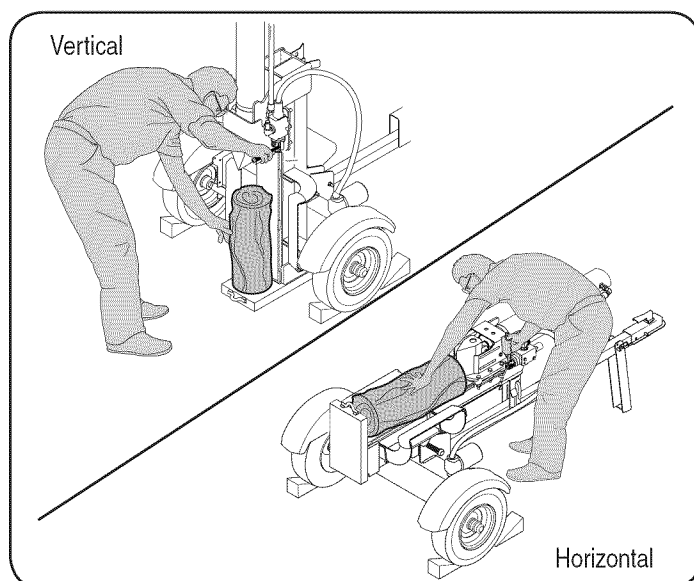

Figure 12
2. Block the front and back of both wheels. See Figure 12.
3. Stand in front of the log splitter to operate the control handle and to stabilize the log. See Figure 12.
2. Stand behind the reservoir tank to operate the control handle and to stabilize the log. See Figure 12.